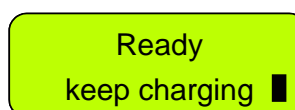

Figure 3.3
- Once the battery is fully charged, the message will change to that as shown in Figure 3.3, reminding you to keep it connected to the charger until the next use.